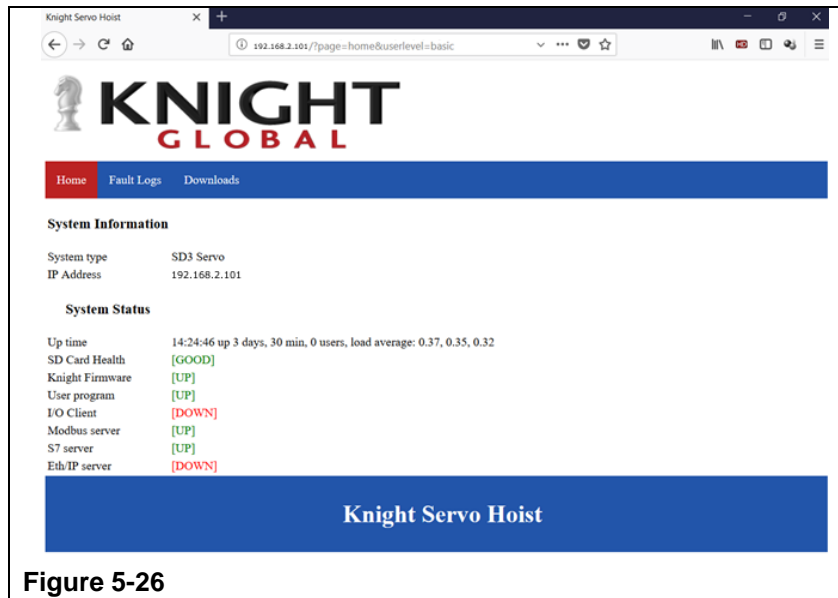

Figure 5-26
- Step 2. The web page will be similar to what is shown in Figure 5-26.